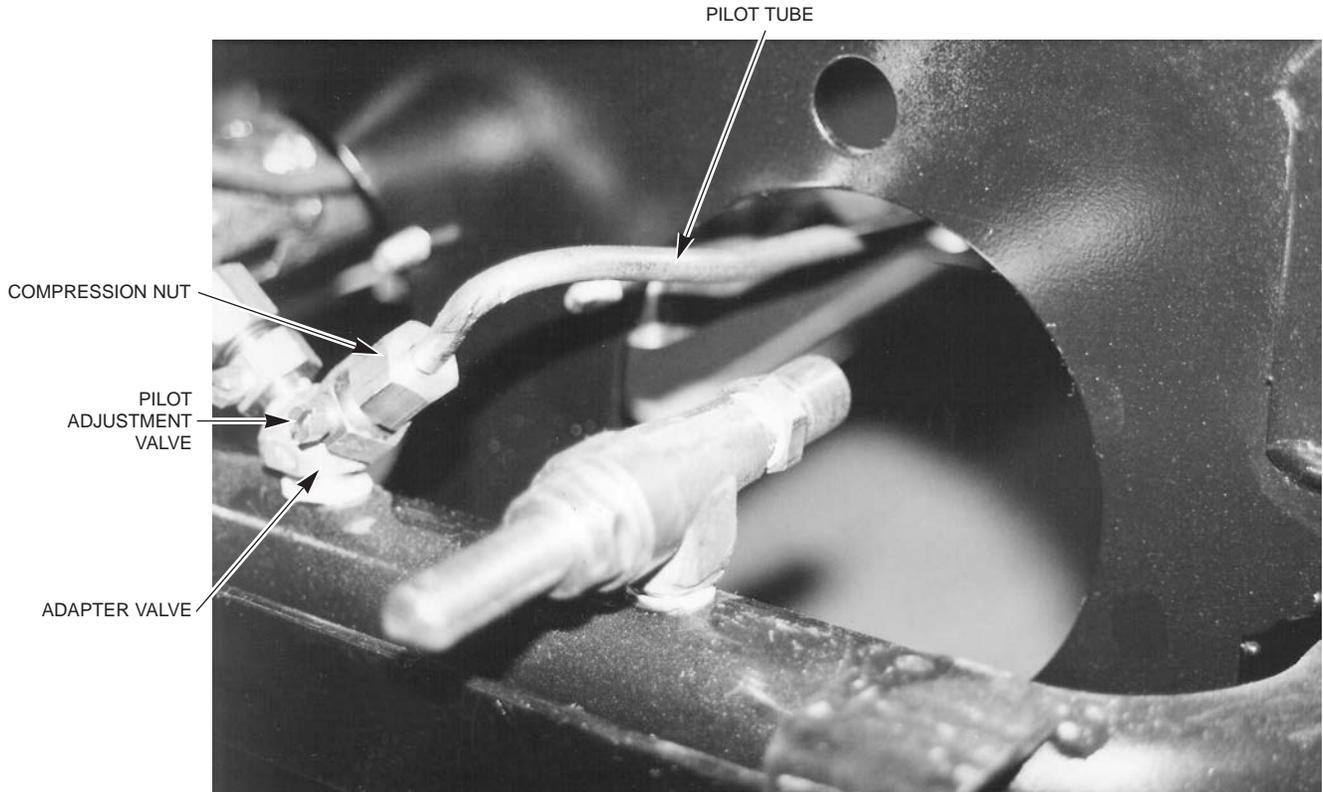

Fig. 12
2. With a 6" adjustable wrench remove the adapter valve. (Fig. 12)
2. Disconnect the compression nut from the pilot tube with a 7/16" wrench. (Fig. 12)
3. With a 6" adjustable wrench, disconnect the pilot adjustment valve from the pilot adapter. (Fig.12)
3. With a 7/16" open end wrench, loosen the compression nut of pilot adjustment valve that connects the tubing that is to be removed. (Fig. 12)
5. Remove the tube from the compression nut. (Fig. 12)